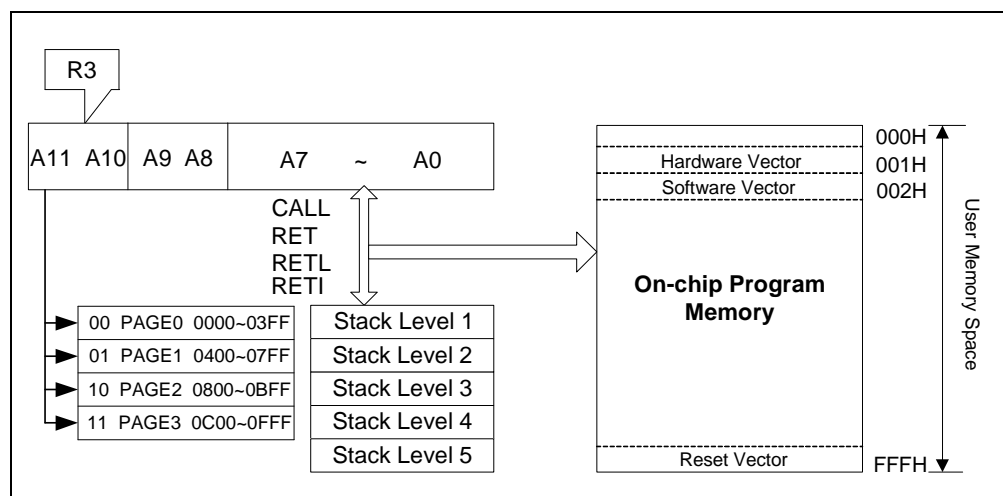

Figure 5-2 Program Counter Organization
- The structure is depicted in Figure 5-2.